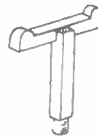

Fig. 3—The T support
The upright T-shaped supports are made in two parts, as seen at (H) and (I) on the pattern sheet. Wood $\frac{1}{8}$ in. thick would answer for these three additions which are let into the centre of the keel piece of the hull, see also Fig. 3. The mast is 6 ins. long and is made and shaped from $\frac{3}{16}$ in. round rod. It must not taper much towards the top, as can be seen in the sketch Fig. 1.